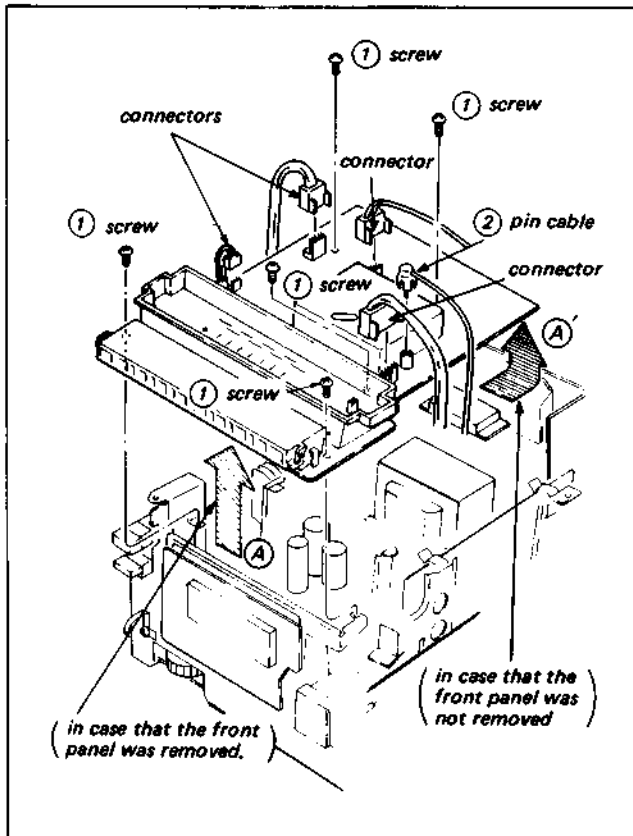

Fig. 1-2. Tuner block removal
2. Tuner Block Removal (See Fig. 1-2)